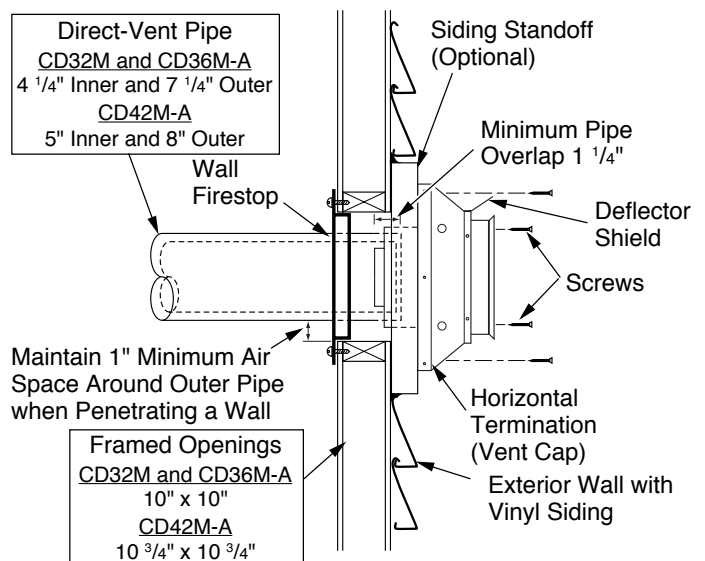

Figure 7 - Vent Termination (Horizontal)
4. Allow 1" of pipe to protrude from internal wall, depending on wall thickness. See Figure 7.
5. For horizontal installation, an optional siding standoff may be installed between the vent cap and the exterior wall. Secure horizontal vent cap to standoff. Secure standoff/vent cap assembly to wall (see Figure 7). Do not seal termination to vent pipe. The vent termination must be removable for service pipe inspection.